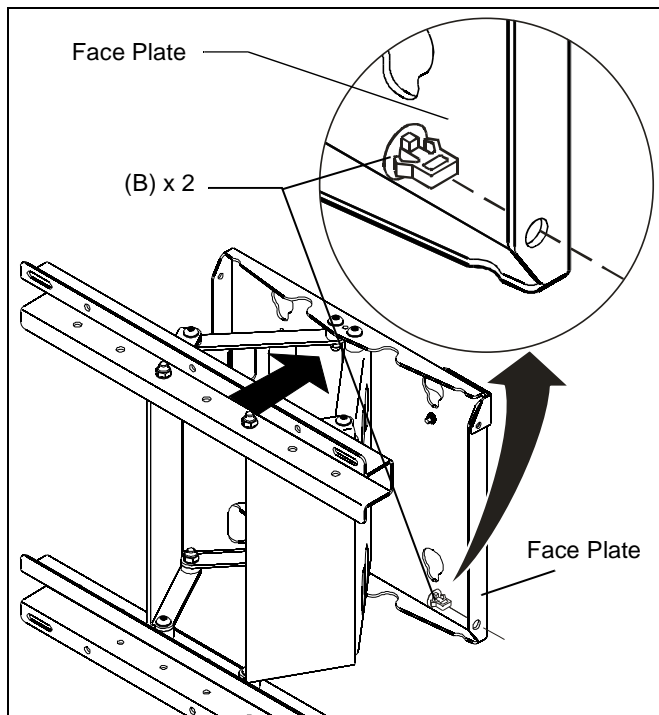

Figure 3
2. Install two cable management clips (B) into each side of mount faceplate. (See Figure 3)